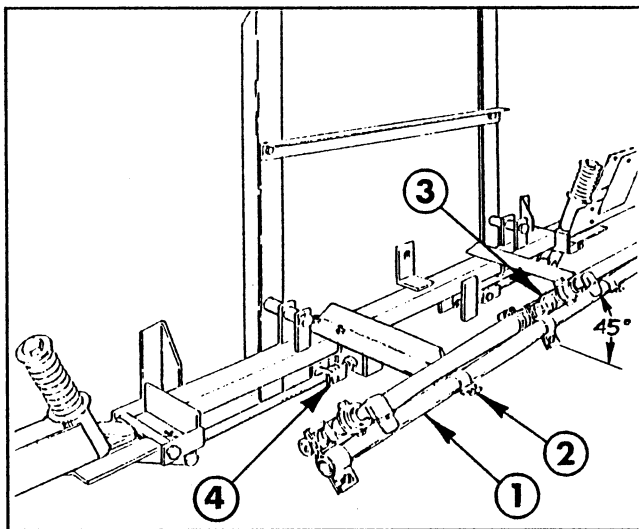

FIG. 12
45. Center and attach the center boom pipe to the center boom angles with two clamps, 3/8" x 1" hex hd cap screw, washers and lock nuts (FIG. 12).
46. Loosely attach the triple barb nozzle assembly in the approximate center of the center boom pipe. For most uniform spray coverage, position all nozzle assemblies at a 45 degree angle (FIG. 12). Tighten clamp screw to secure the nozzle to the boom pipe.
47. Loosely attach a single barb nozzle assembly to each end of the center boom pipe. Place two hose clamps on the two 3/4" x 19" jumper hoses and connect the single barb nozzles to the triple barb nozzle. Tighten all fasteners securely (FIG. 12).
48. Attach the strut assemblies to the adjustable clevis assemblies found on each side of the main frame tube with (2) 1/2" x 2" clevis pins and (2) 1/8" x 1" cotter pins. See FIG. 12.
53. At the adjustable clevis assemblies (See FIG. 12), adjust the booms to the level position by adjusting the jam nuts to the desired position, then tighten the end nuts against the boom frame support member.